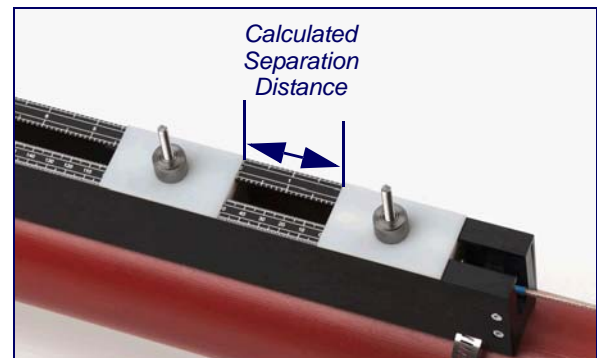

Figure 2.12
8. Position the upstream transducer so that the inner edge of its nylon flag is set to the required separation distance on the ruler, then lower the transducer onto the pipe by turning the thumb screw anti-clockwise, as shown in Figure 2.12 (2.0 inches in this example).